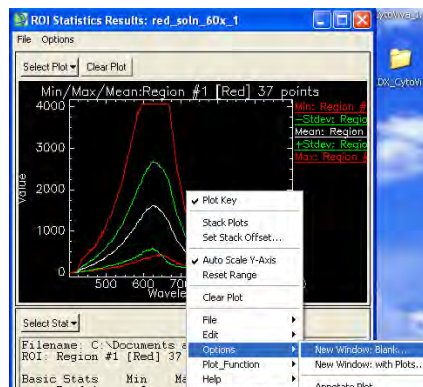

Figure 43. ROI Statistics Results
- e. Click New Window: Blank (see Figure 43)